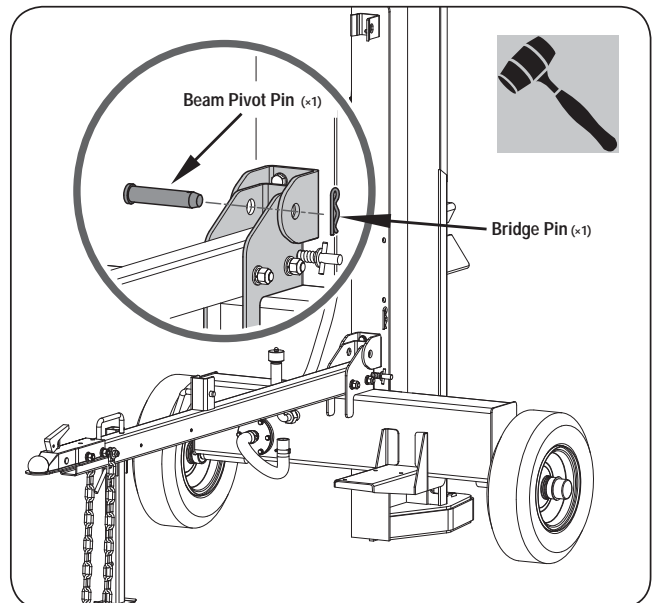

Figure 8b
2. Align the pivot bracket on the beam assembly to the pivot mount on the tank weldment and insert the beam pivot pin and washer. (See *Figure 8b*.)